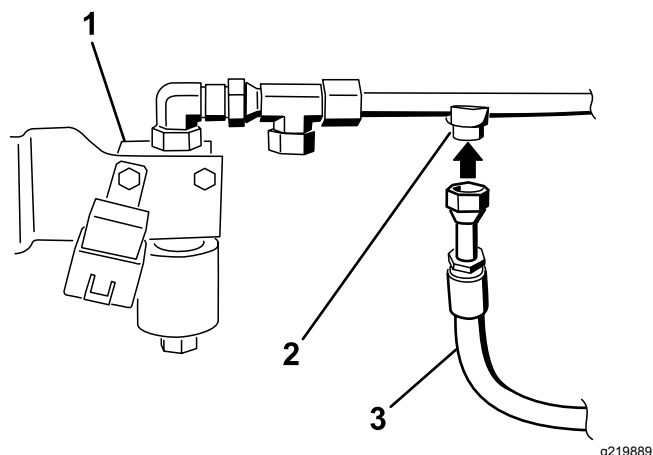

Figure 29
8. Install the hydraulic hose with fittings to the fitting on hydraulic line number 2 as shown in Figure 29.